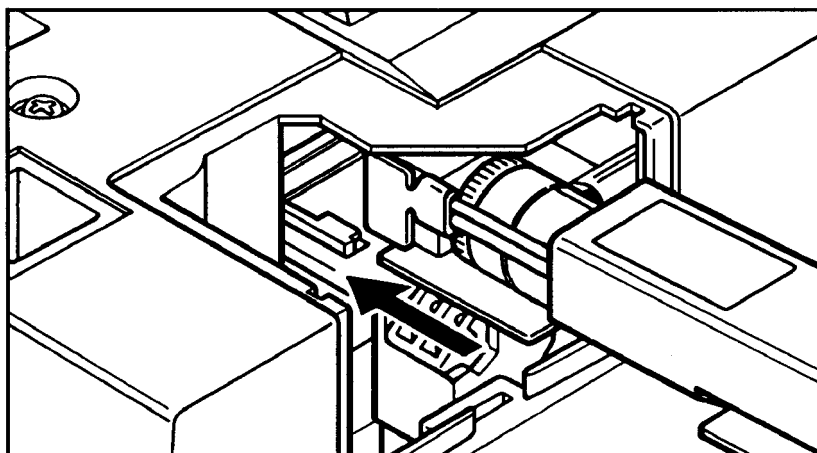

Figure 22. Inserting the Lamp Holder
13. Insert the lamp holder as shown making sure the base of the holder fits into the plastic guide. See figure 22.